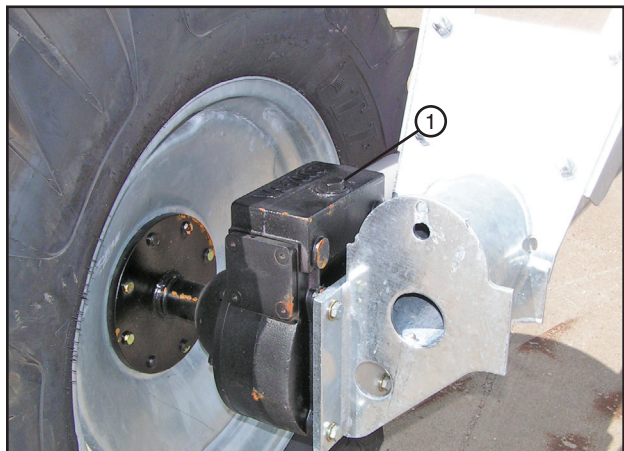

Figure 66-2 1. Fill Plug
3. Clean all of the dirt away from the fill plug. See figure 66-2.